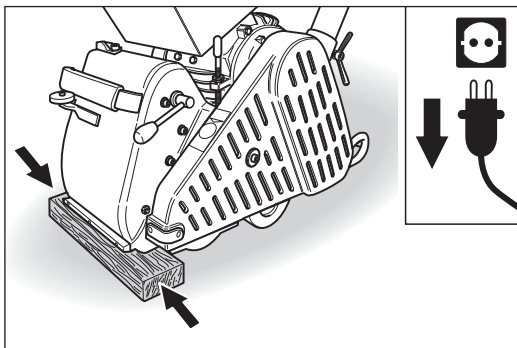

Fig. 25 Secure the machine against sliding!
- **Secure the machine against sliding!** For example, place a flat piece of wood between the floor surface and machine housing (Fig. 25).